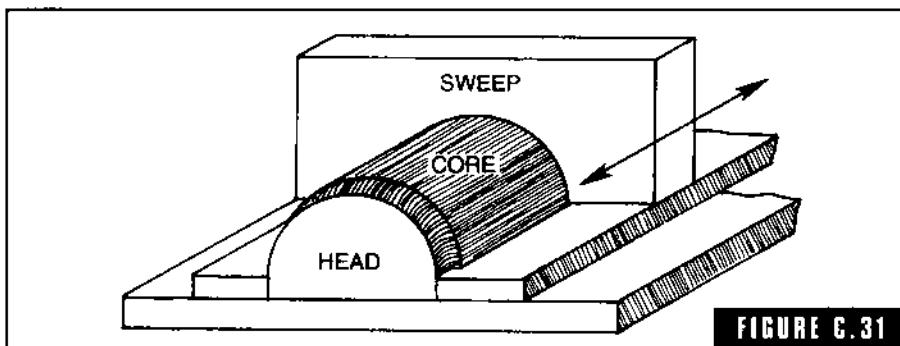

FIGURE C.31
**core sweeps** Cores produced from a sweep or sweep box in place of a full core box. Large cores are often swept to cut down on the pattern cost (core boxes) (Fig. C-31).